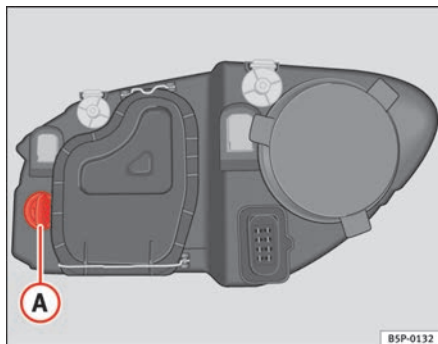

Fig. 159 Turn signal lamps
- Rotate the lamp holder ⇒ fig. 159 **A** to the left and pull.